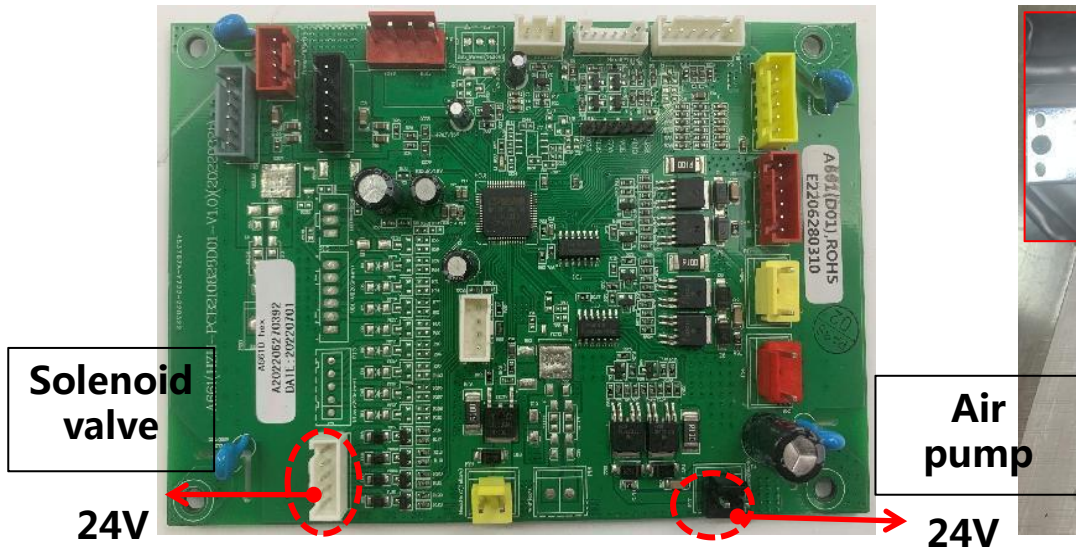

Figure 1
3. Measure whether there is DC24V voltage in the drive board plug-in (Fig. 3) and backrest cushion plug-in (Fig. 1) with multimeter. If there is no DC 24V voltage, the drive board will be damaged and replaced; (Figure 3)